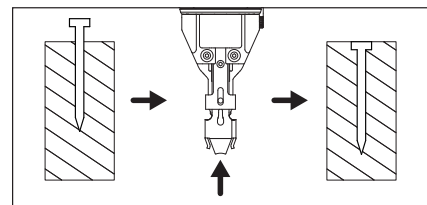

Figure 24
3. If nails are driven too shallow into work surface, move the work contact element up (or toward) to tool body (see Figure 24).